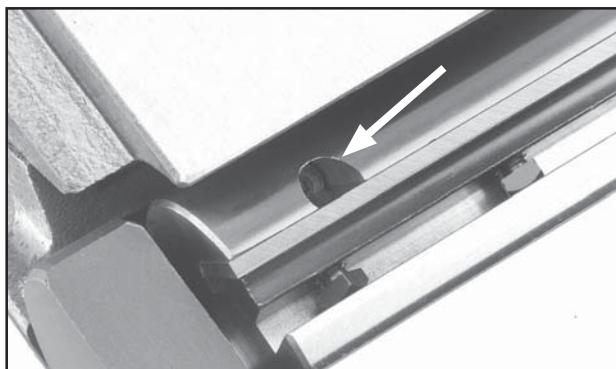

Figure 37. Jack screw access hole.
- Jack Screws:** Using a 3mm hex wrench, find the jack screws through the access holes in the cutterhead (**Figure 37**) and rotate them to raise/lower the knife. When the knife is set correctly, it will barely touch the middle pad of the knife setting jig. For now, only tighten the gib bolts enough to hold the knife in place. Repeat **Steps 5–7** with the other knives.